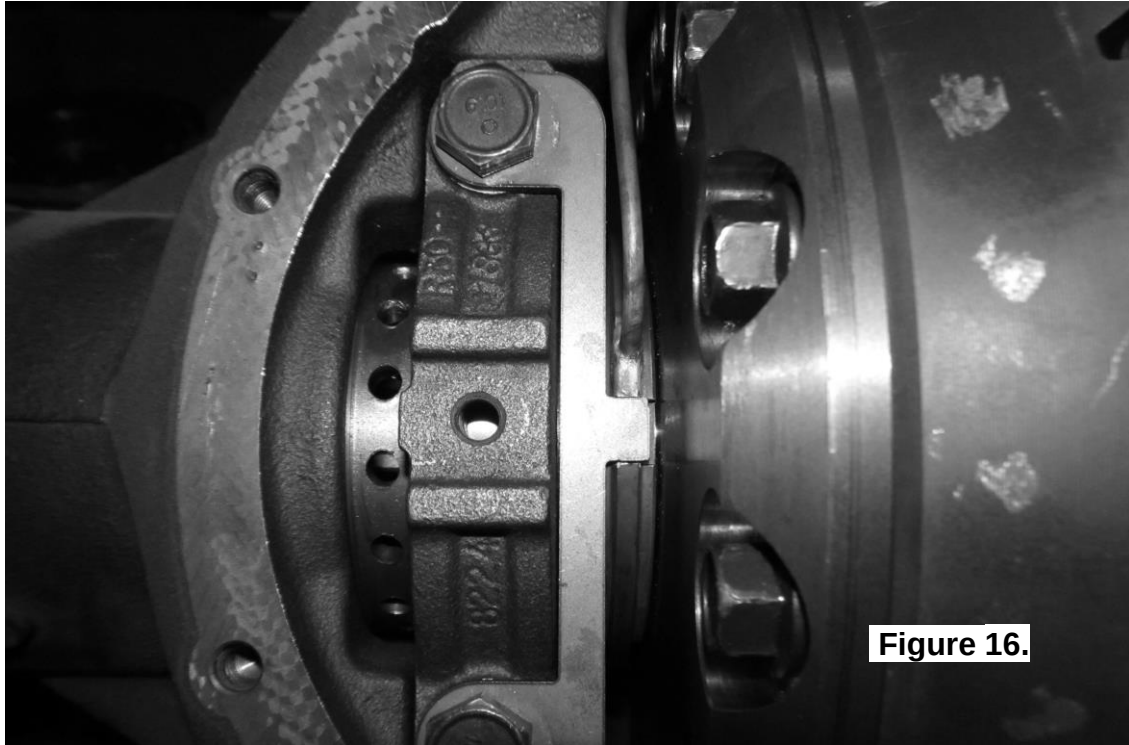

Figure 16.
- ☐ Rotate the seal housing so that the slot is pointing straight out of the axle opening. Then install the supplied seal housing bracket with the tab locating in the seal housing slot as shown in Figure 16.